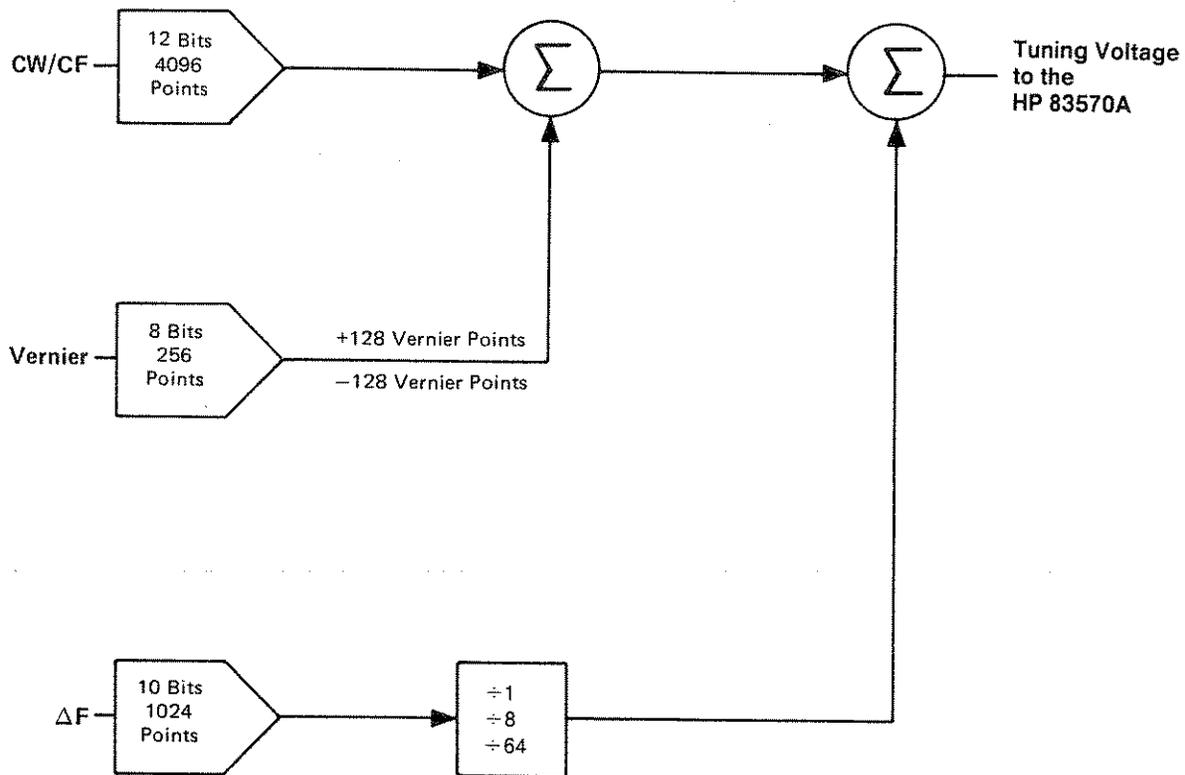

Figure 3-1. Simplified Tuning Voltage Block Diagram
Figure 3-1 is a simplified block diagram of the frequency tuning circuits in the HP 8350. The net tuning voltage results from the summation of the three DAC outputs. With this DAC configuration, the START/STOP sweep mode is computed by the microprocessor into a center frequency (CF) and a ΔF sweep width. Therefore the operation of all sweeps are set with a center frequency and sweep width. The center frequency is specified by the center frequency (CF) DAC and the vernier DAC, and the sweep width is determined by the ΔF DAC.